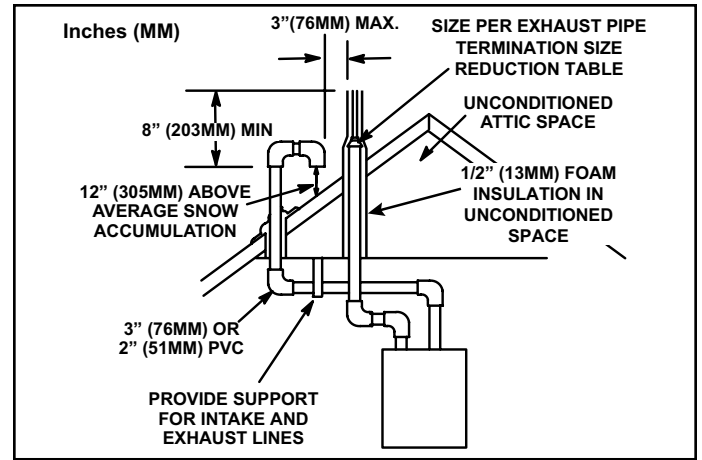

Figure 30. Direct Vent Roof Termination Kit
Intake and exhaust pipes may be routed either horizontally through an outside wall or vertically through the roof. In attic or closet installations, vertical termination through the roof is preferred. Figure 30 through Figure 38 show typical terminations.
3. On roof terminations, the intake piping should terminate straight down using two 90° elbows (See Figure 30).